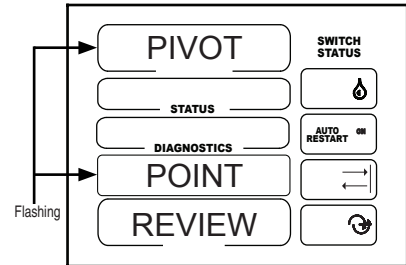

Figure 46-1
1. PIVOT POINT should be flashing. See figure 46-1.